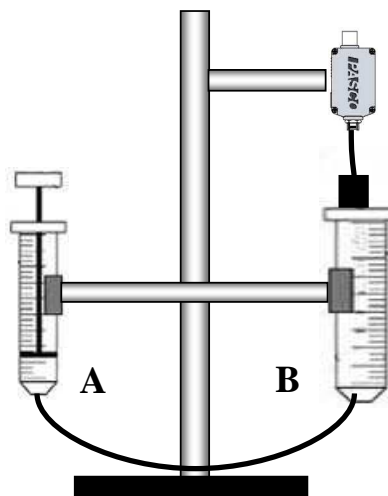

Figure 4: Measuring Pressure
1. We will now lead you through setting up the apparatus shown in Figure 4. Place the 10 cc syringe on the left side and the 50 cc syringe on the right side. Use the special holder provided (not shown in Figure 4) and place the syringes into the appropriate holes. For the remainder of this investigation, we will refer to the left side of the apparatus as A and the right side as B. For example, syringe B is the syringe connected to the pressure sensor in Figure 4. **Leave the large rubber stopper off the 50 cc syringe for now.**
6. Now raise piston A so it reads about 7 cc and place the large rubber stopper into the top of syringe B. The piston is not in syringe B at this time. See Figure 4.